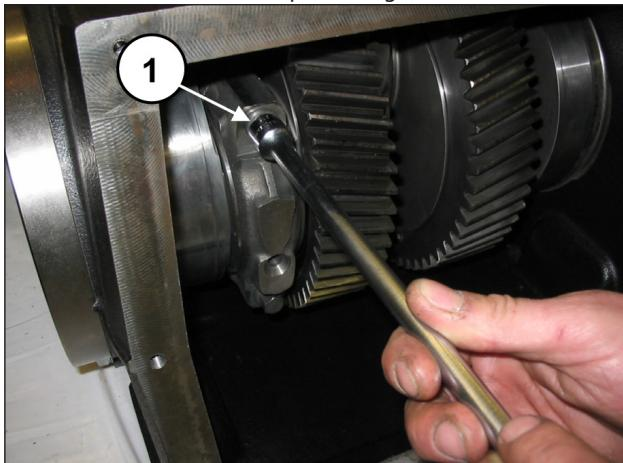

Fig. 17
Unscrew the conrod screws (pos. ①, Fig. 17).